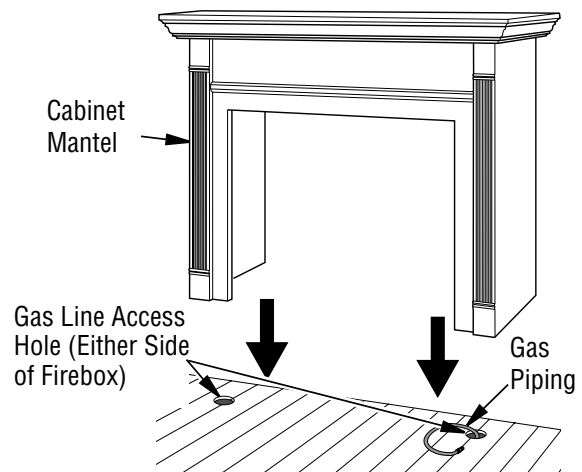

Figure 11 - Installing Cabinet Mantel (Mantel May Vary From Illustration)
2. Install gas piping to firebox location. See Gas Line Installation on **Page 11**. You may have to cut an access hole in the floor or wall to run gas line to firebox. Make sure to locate access hole so cabinet mantel will cover it when installed (see **Figure 11**).